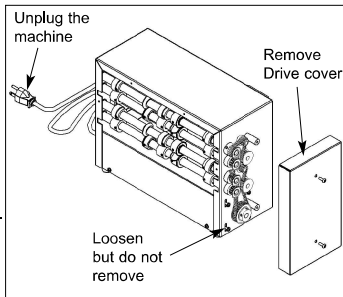

Figure 10
2. Remove the Drive cover (on opposite side of machine from the power switch) Fig. 10